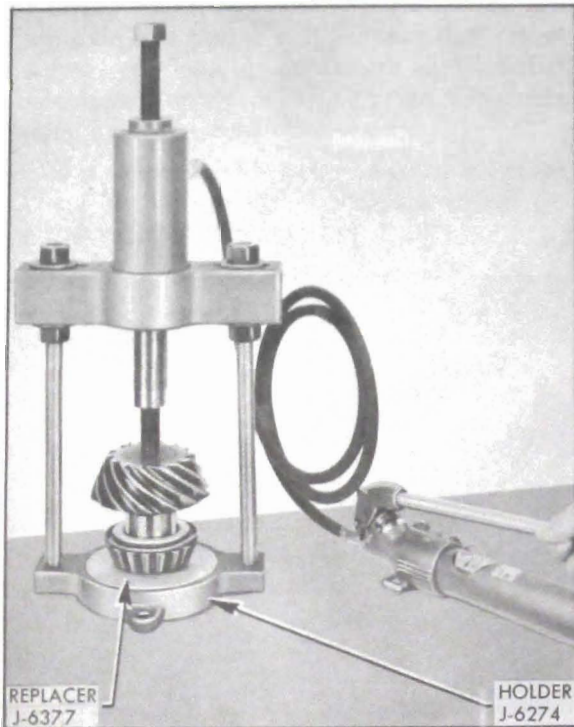

Figure 6-22—Installing Rear Pinion Bearing
3. Whenever a new carrier, a new pinion, or a new pinion bearing is to be used, a trial assembly must be made in order to determine correct pinion depth setting and correct pinion bearing pre-load. For a starting pinion depth setting, use a shim with a nominal thickness of .048". Place this shim against head of pinion and install rear pinion bearing using Replacer J-6377 and older J-6274 in a press or as shown in figure 6-22.